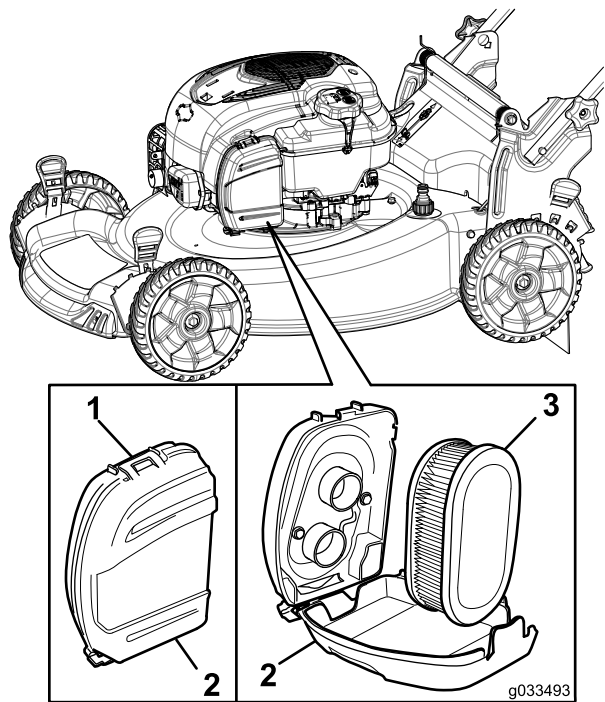

Figure 30
- 1. Unclip the top of the air-filter cover (Figure 30).
- 2. Remove the air filter (Figure 30).